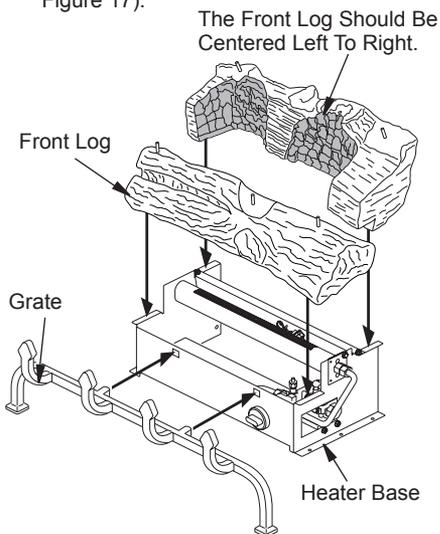

Figure 17 - Installing Grate and Logs
1. Place grate into square holes on heater base as shown in Figure 17.
2. Place front log on burner so that it sits between grate fingers and burner (see Figure 17).
- Place rear log on heater base behind the metal burner. The bottom of the rear log has recess areas on the left and right side for the base to set into. Pull the rear log forward until it touches the front log (see Figure 17, page 15).